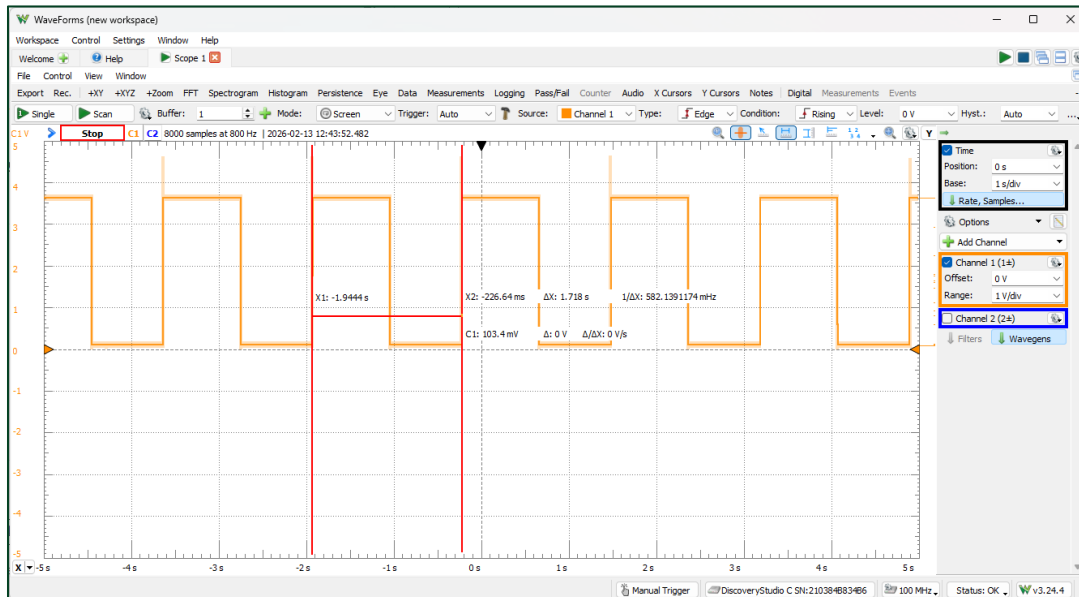

Figure 7. Signal Period Measurement using WaveForms Cursor tools
- 4.2. Use the same cursor tools to measure the **HIGH-state duration** of the pulse signal (see Figure 7).
Figure 7 illustrates the NE555 output signal measurement using cursor tools in the WaveForms Oscilloscope. The cursors are used to observe how the output waveform changes after replacing the timing capacitor, enabling analysis of how capacitance affects the oscillation behavior.